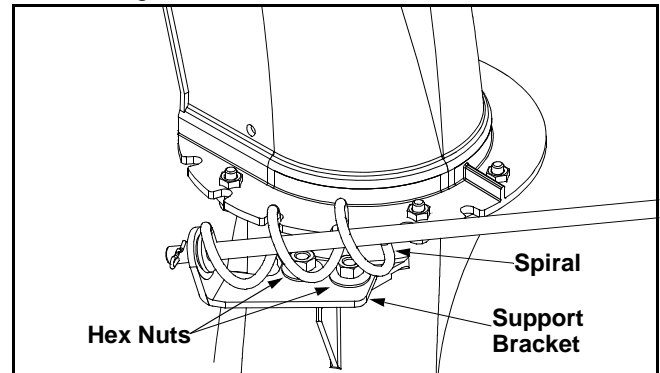

Figure 15
- Loosen, but do NOT remove the two hex nuts which secure the chute directional control support bracket to the snow thrower housing. See Figure 15.